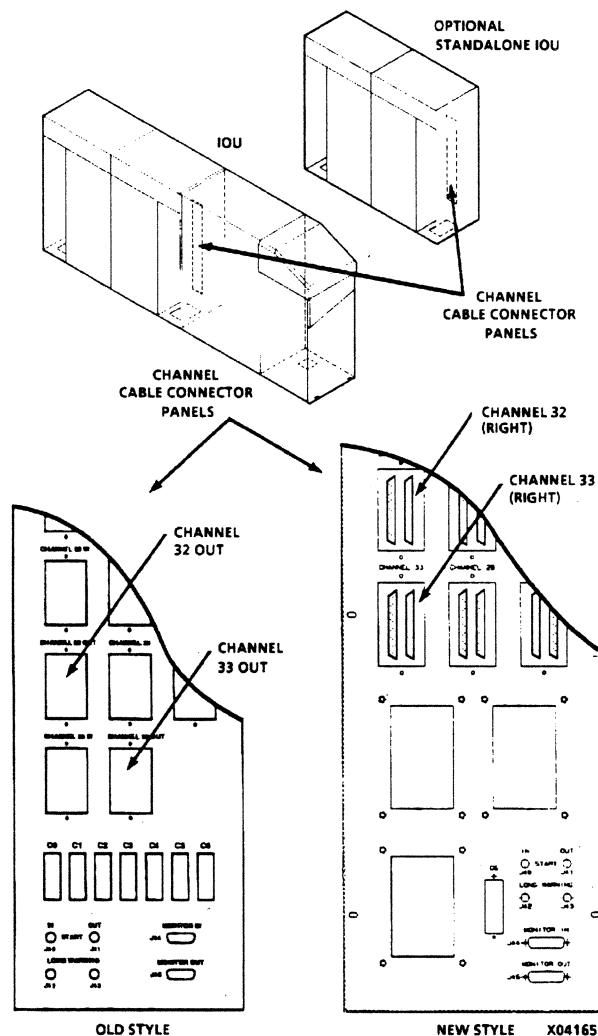

Figure 2-41. Terminator Installation
- a. If standalone IOU is not being installed, connect terminator to J01 (old style CHANNEL 33 OUT, new style CHANNEL 33 right side of connector) in primary IOU (figure 2-41).